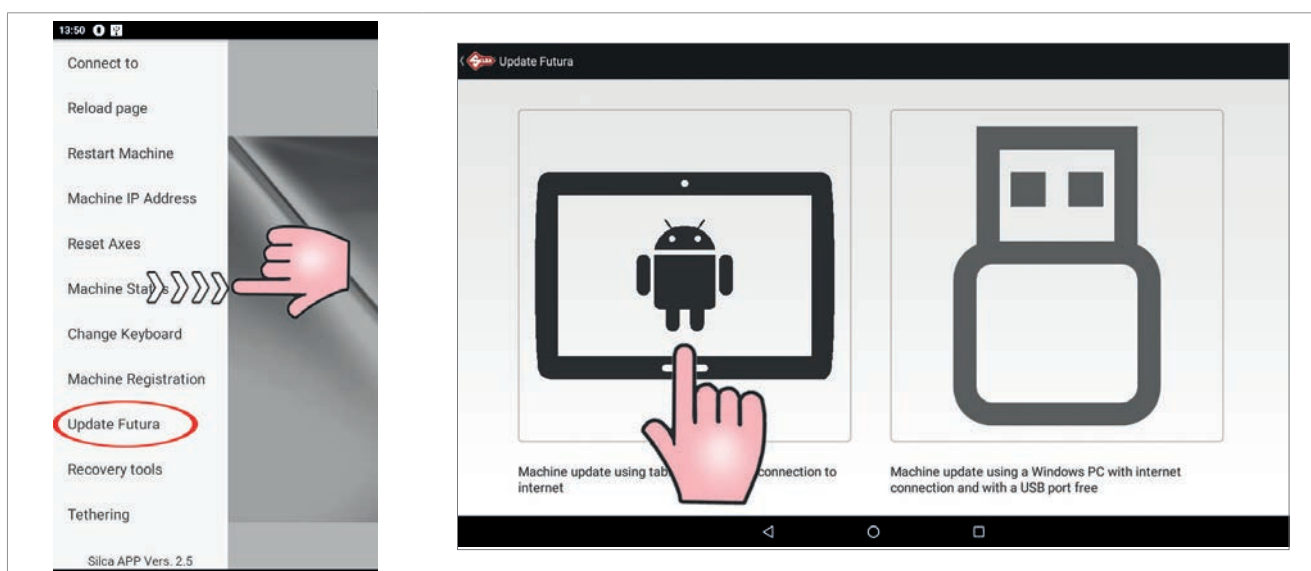

Fig. 11
- Click on the tablet image (Fig. 11) and follow the guided procedure (if the tablet is not connected to a Wi-Fi network you will see a screen from which a Wi-Fi network can be selected).